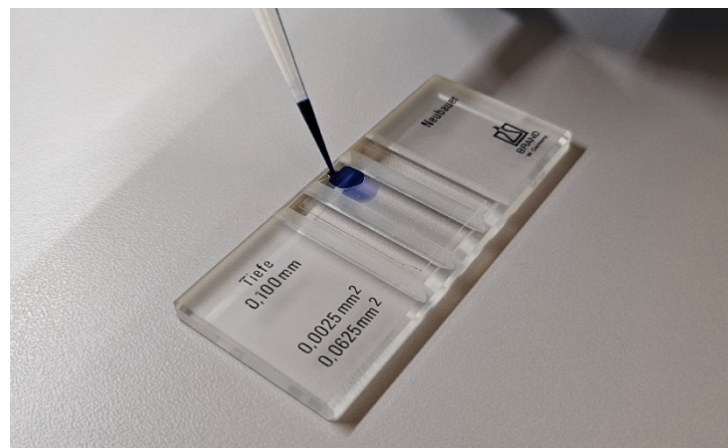

Fig. 5.4. Filling of the Neubauer counting slide
- Transfer 25 μL of the trypan blue-cell suspension you just prepared to the chamber of the Neubauer slide by carefully placing the tip of the pipette slightly inclined near the coverslip on the central grid platform (see figure 5.4). The filling must be done carefully in one go, without air bubbles and it is important not to overfill the chamber. In case air bubbles are visible or if the liquid has spilled over the edges into the channels, the chamber must be cleaned and refilled (see Remarks). You have enough solutions to clean and reset the counting slide twice.